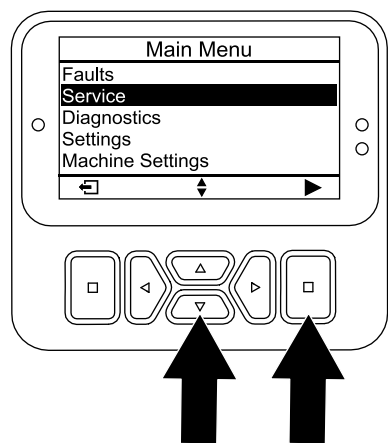

Figure 95
- 4. Press the down button until the SERVICE option is selected, then press the select button (Figure 95).